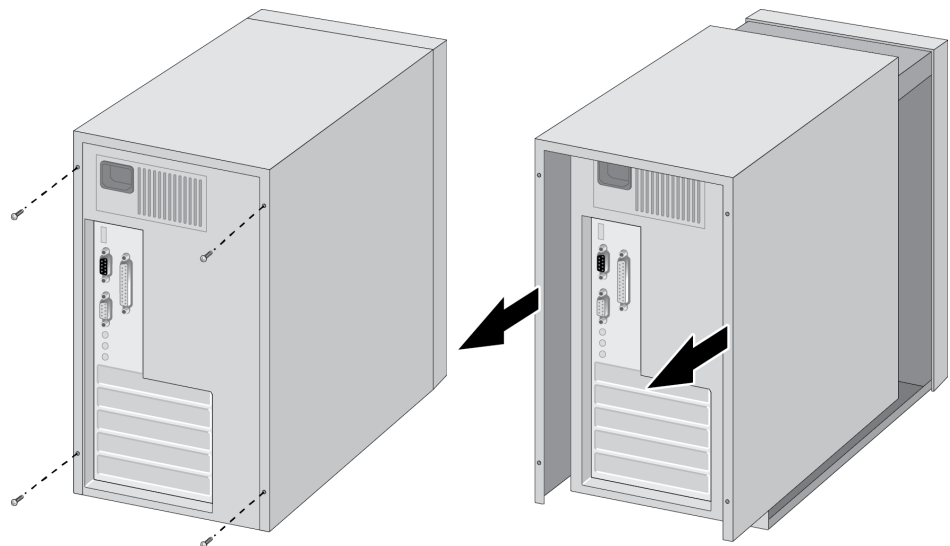

Figure 11. Removing the PC Cover
2. Remove the system cover. See Figure 11.